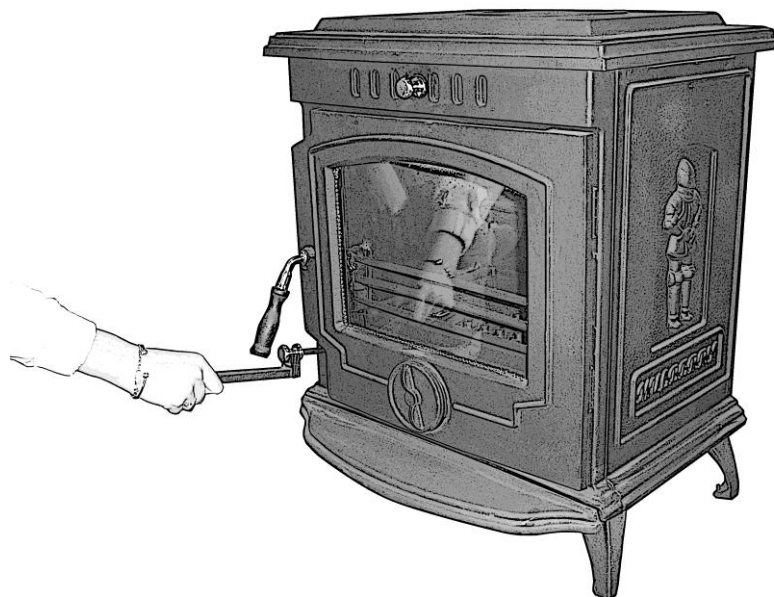

Fig 13.
- When ash builds up in the firebox shake the grate using the knob on the bottom left of the stove see Fig 13. This will move the ash off the grate and into the ash pan located under the firebox.